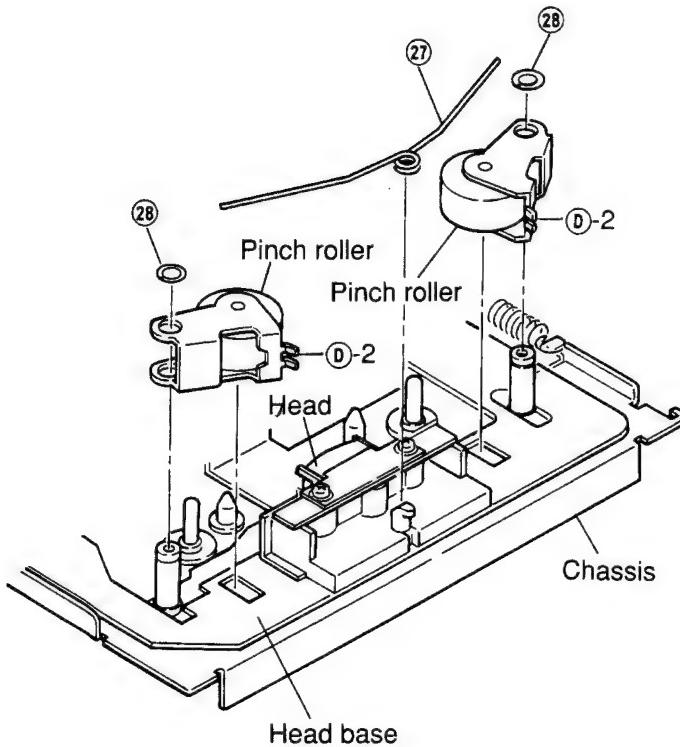

Figure 20
- (1) Remove pinch roller spring ②7 as shown in Figure 20.
- (2) Remove M3.1 two lock washers ②8 and remove the pinch roller as shown in Figure 20.
- (3) Mount the pinch rollers following the removal steps in the reverse order.
Apply insulation coating to the position ④-2 of the pinch roller as shown in Figure 20.